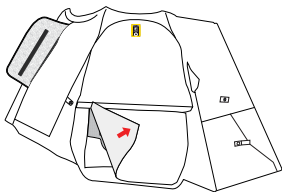

Figure 11
1. Access the opening in the inner part of the vest by opening the zip and the hook-and-loop patches (Figure 11).